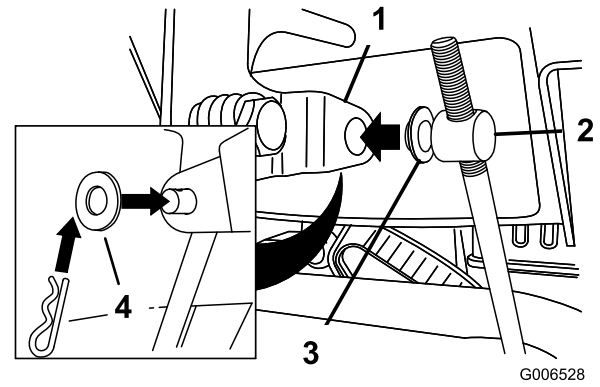

Figure 6
Note: To make installation easier, leave the inner washer on the trunnion (Figure 6).
- Lift up on the speed control rod and insert the trunnion into the hole in the speed selector lever (Figure 6).
- Remove the hairpin cotter and the outer washer from the trunnion on the upper end of the speed control rod (Figure 6).
- B. Disconnect the trunnion from the speed selector lever (Figure 6).
- C. Turn the trunnion downward (clockwise) on the speed control rod (Figure 6).
- D. Connect the trunnion from the speed selector lever (Figure 6).
- C. Turn the trunnion upward (counterclockwise) on the speed control rod (Figure 6).